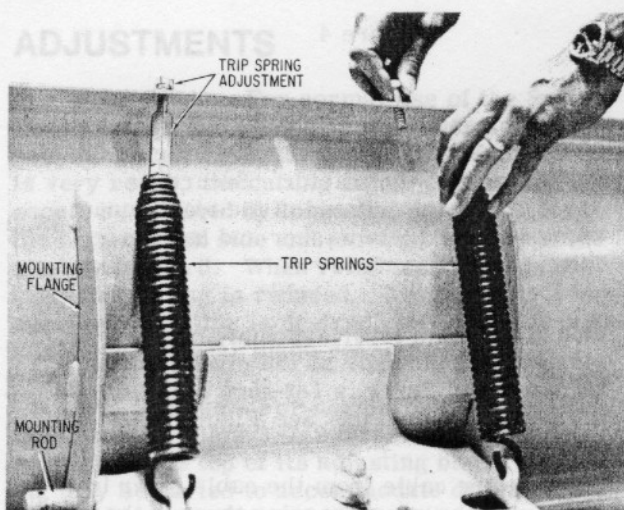

Figure 3
4. Attach the trip springs between the pierced holes on the push tube and the top of the main blade. See Figure 3.